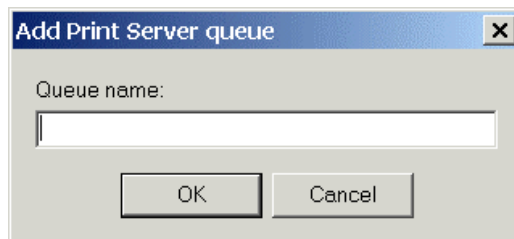

Figure 4-5
1. Add a virtual print queue to the Print Server data source (shown on Figure 4-5).